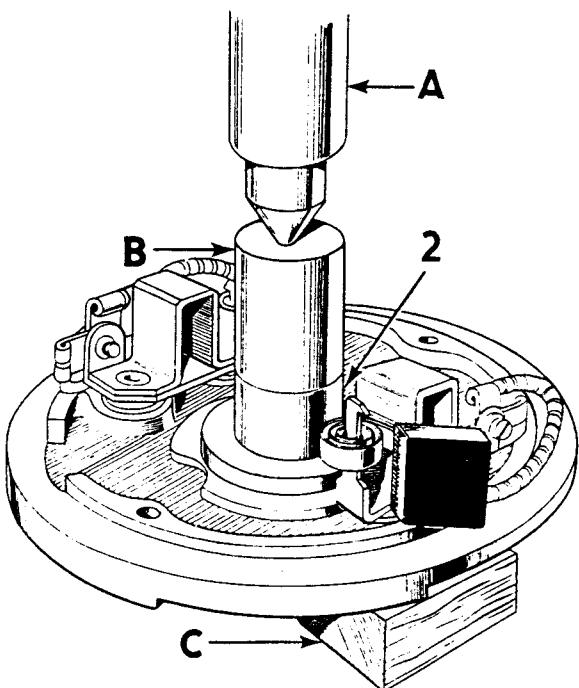

FIG. 5
- Press the bearing bush out of the bracket by means of a hand press A, Fig. 5.
- Press the new bearing bush (2) into the end bracket using a shouldered mandrel B of the same diameter as the shaft